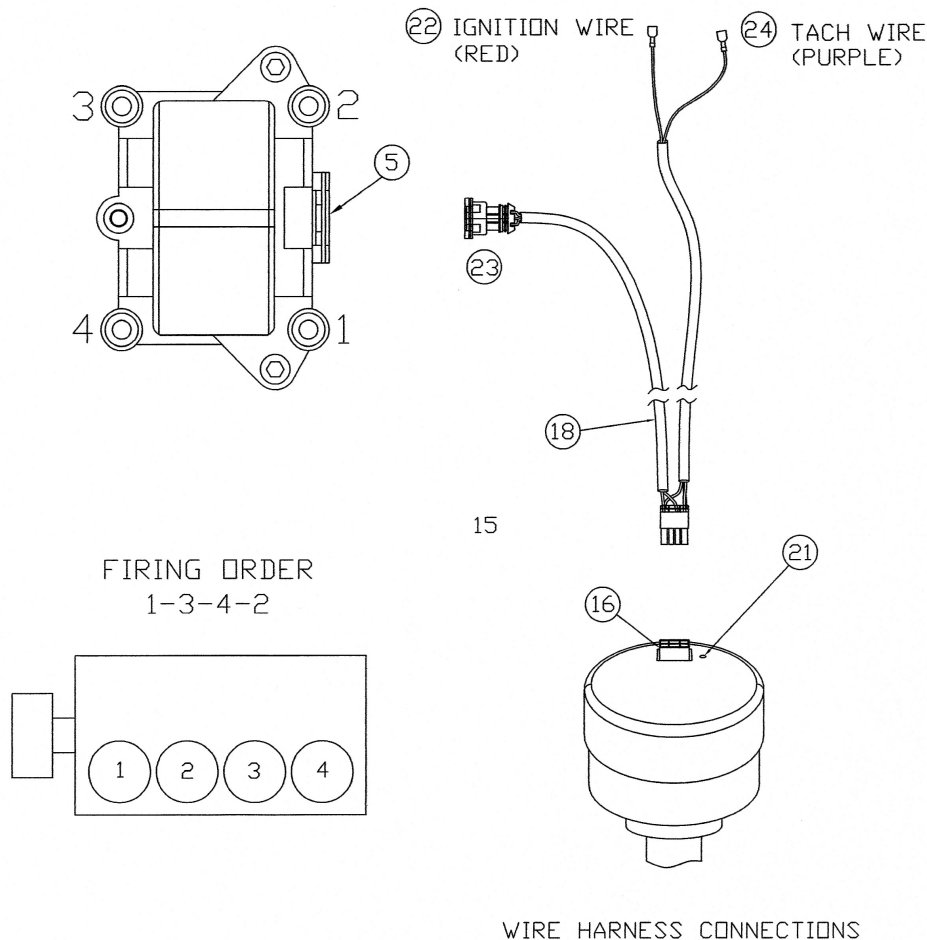

FIGURE 1
Refer to Figure 1.
There are two long spark plug wires and two shorter ones in the spark plug wire set supplied. The two long wires go to cylinders #1 and #4. The two shorter wires go to cylinders #2 and #3. The cylinder designations for the Ford 2.3 L engine are shown in Figure 1.
1. Connect the wire harness plug (23 – Figure 1) to the Coil Pack Connector (5 – Figure 1). The connectors will only go one way and have a spring clip to hold them together. Push the spring wire, on connector (23), down to insert into or remove the connector (23) from the Coil Pack Connector (5). Make sure the connectors are fully mated and that the spring clip locks it in place when released.
2. Connect the ignition switch wire to the red wire (22 – Figure 1), in the wire harness. Connect the wire from the tachometer (if applicable) to the purple wire (24) coming from the wire harness. If you are not using a tachometer, tape off the connector on the purple wire. The ignition switch and tachometer wires should be terminated with fully insulated ¼" female spade connectors.
The spark plug wires may be connected incorrectly. Recheck that the spark plug wires are connected as shown in Figure 1.